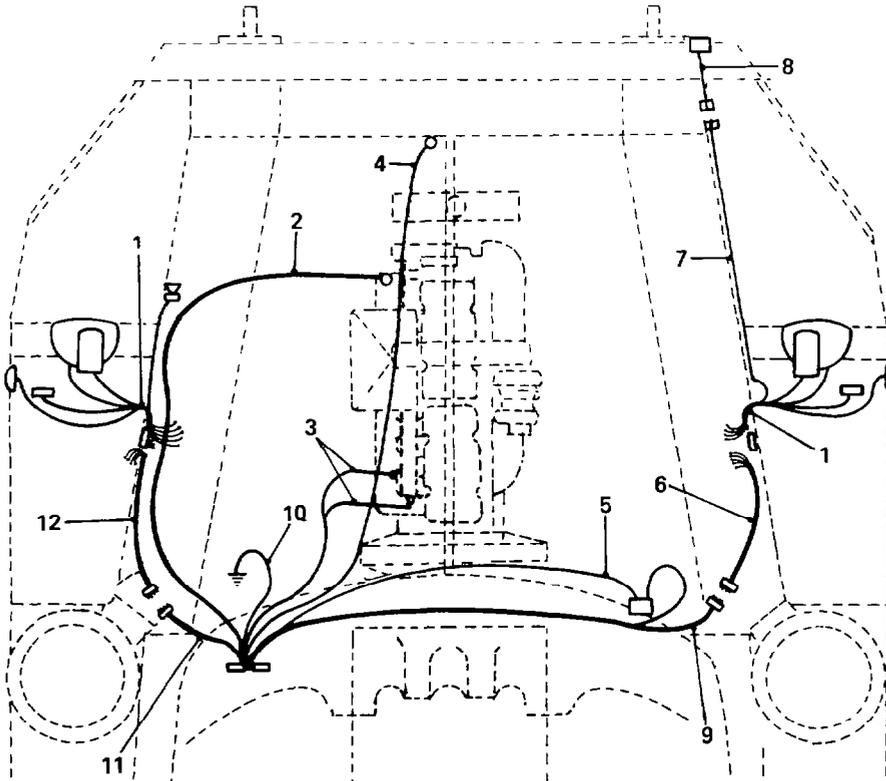

Fig. 382 — Engine Wiring Harness
- b. After determining which harness is to be replaced, refer to fig. 382, disconnect the harness. As an added precaution and to assist in installation of the replacement harness, tag-mark each wire and terminal in turn as the wire is disconnected. Disconnect the zip clamps and brackets, then remove the harness from the truck.